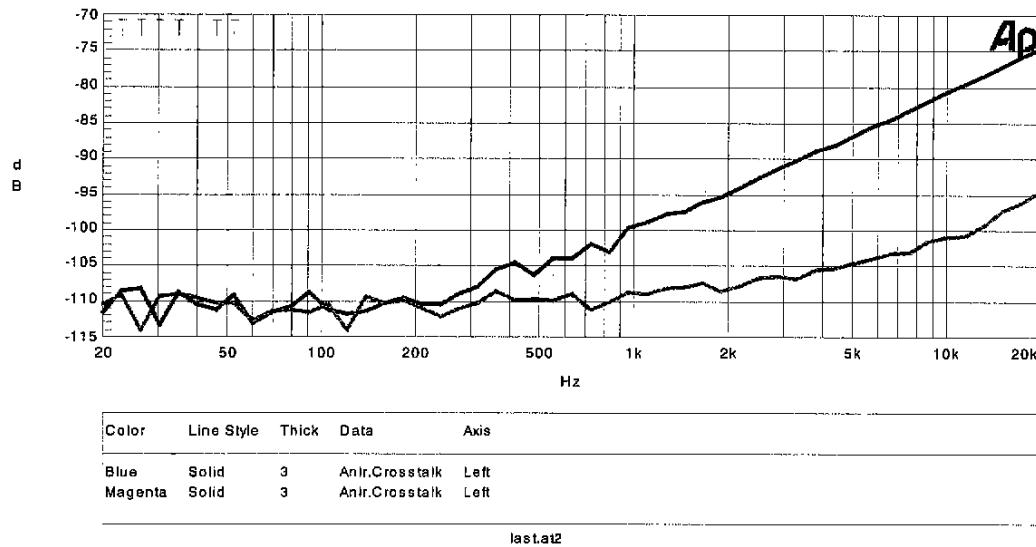

Fig5 : Crosstalk
⑤ Crosstalk (Fig5)**⑥ FFT PLOT**